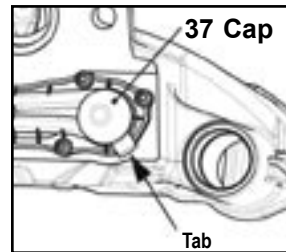

FIGURE 34 - TAB POSITION
Lightly grease and install a new adjuster cap (37) using white lithium-based grease. Note: The tab of the adjuster cap should be positioned as shown by the arrow in Figure 34 for ease of access.